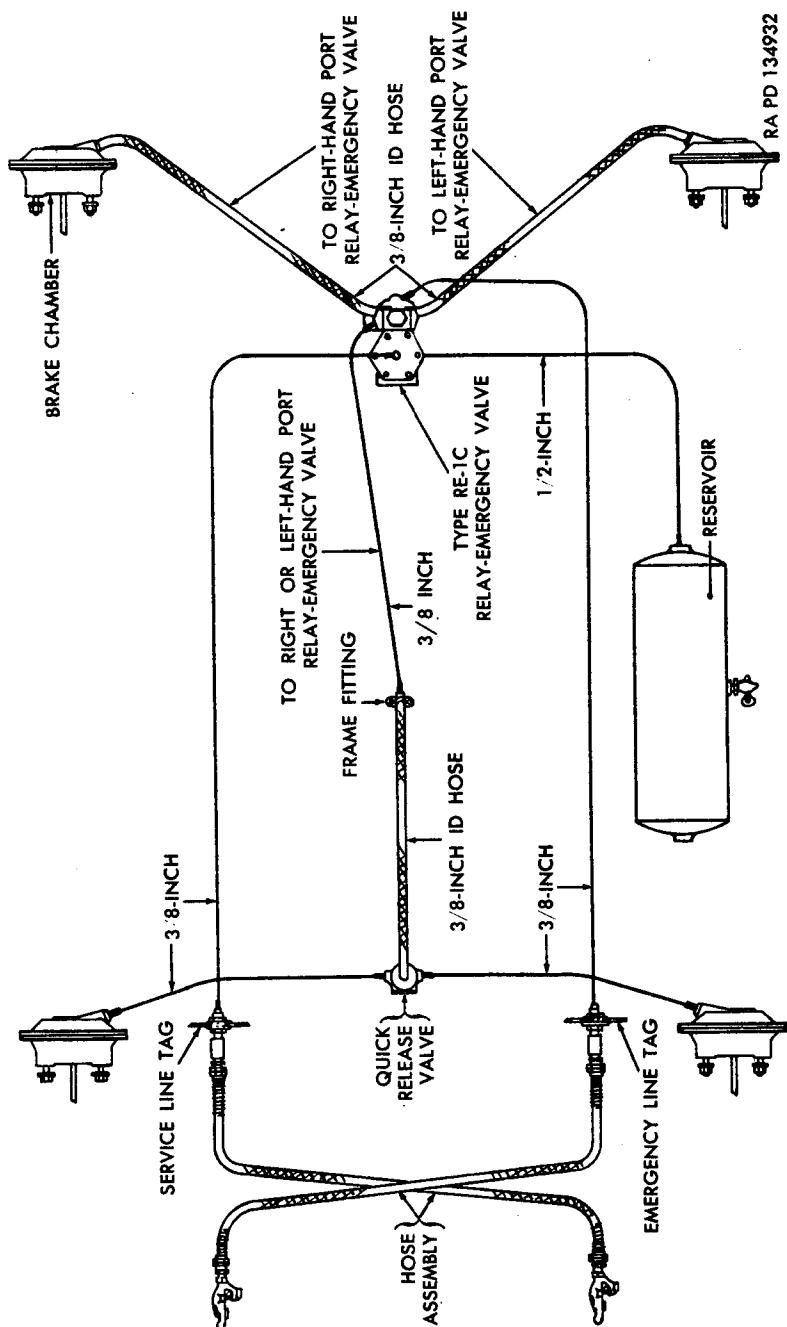

Figure 11. Typical piping diaphragm for four-wheel trailer air brake system.
a. Four-Wheel Trailers. A typical trailer brake system, shown in figure 11, consists of a relay-emergency valve, quick release valve, one reservoir, brake chambers, and the connecting lines. Air from tractor emergency line enters trailer reservoir through relay-emergency valve. Service line pressure from tractor brake valve operates relay-emergency valve and admits brake valve delivery pressure to brake chambers from the trailer reservoir and through the relay-emergency valve. In the event that trailer breaks away from tractor, the relay-emergency valve automatically delivers full trailer reservoir pressure to brake chambers.